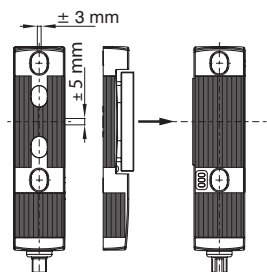

Figure 1: Lateral Offset and Effective Direction of the Locking Force
- The Guard Locking Device must be operated in the same direction as the effective direction of the locking force (see figure 1).